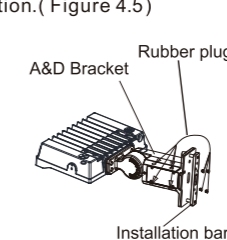

Figure 4.3
Step 1: Remove the four bolts from A&D bracket, remove the four rubber plugs from installation bar, put the four rubber plugs on the place where the four bolts were previously placed on the bracket for waterproof purpose. (Figure 4.3)
Notice: Adjustable angle is 0-90°. (Figure 4.3)